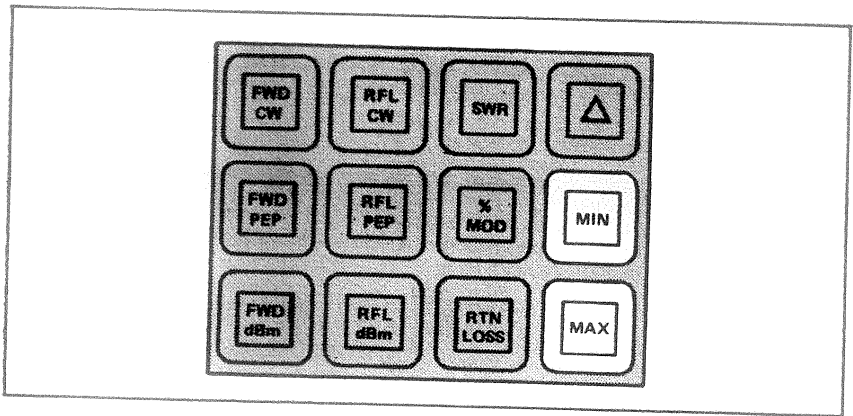

Figure 3-8. Maximum or Minimum Readings.
h. Monitoring Maximum and Minimum Readings. (Figure 3-8). While operating in any of the modes described, the 4380 Series will continuously keep track of the highest and lowest reading obtained. This action begins after ten reading cycles to allow time for the peak detectors to settle from the previous mode. To recall the maximum or minimum reading, hold the **MAX** or **MIN** key depressed. When these keys are released, the meter goes back to displaying the current value of the parameter being measured. Recalling maximum or minimum does not stop the meter from continuing to monitor the current value and updating the minimum and maximum registers. To clear the minimum and maximum register, the mode key must be pressed again or a
other — even with eyes closed — then push the MIN memory button to display the optimum achievable value, and tune your gear to match it. The same easy procedure is available for desired maximum levels, by use of the MAX memory button. This is even faster than tweaking with an analog display meter, since one need not pass the signal dip (or peak) several times to be certain the optimum condition has been reached: The memory shows exactly what MIN or MAX value to aim for (Figure 3-8).